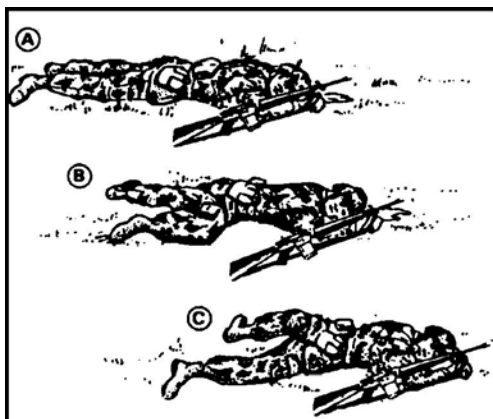

Figure 3. Low crawl.
- 5. Use the low crawl (Figure 3).